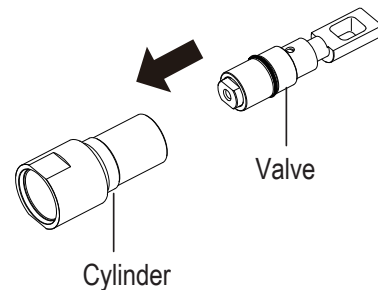

Fig.20
- b. Insert the valve into the cylinder. (Fig. 20)